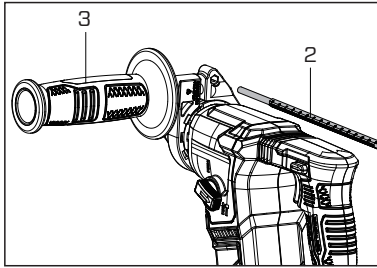

Fig.3
Loosen Auxiliary Handle(3) and insert the Depth Gauge(2) to the hole. Make sure it does not touch the body of the tool. Adjust to desired depth then tighten the Auxiliary Handle(3) to hold the Depth Gauge(2) (Fig.3).